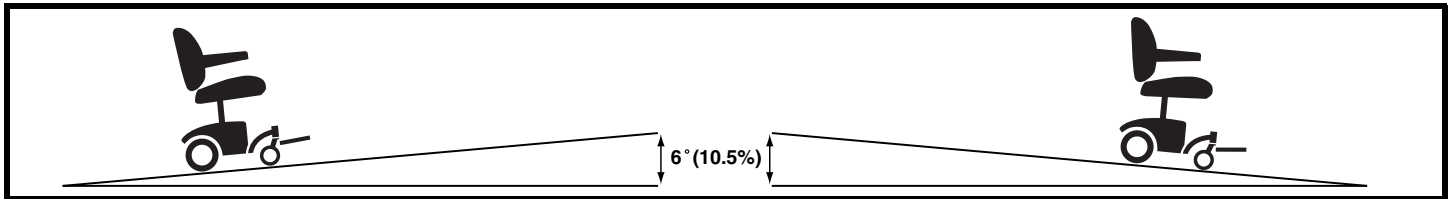

Figure 1. Maximum Recommended Safe Slope (Ascending and Descending)
**WARNING!** Even though your power chair is capable of climbing slopes greater than those illustrated in figure 1, do not, under any circumstances, exceed the incline guidelines or any other specifications presented in this manual. Doing so could cause instability in your power chair.
Pride recommends that the maximum slope of an incline you attempt to safely ascend or descend on your power chair does not exceed 6° (10.5%). See figure 1.